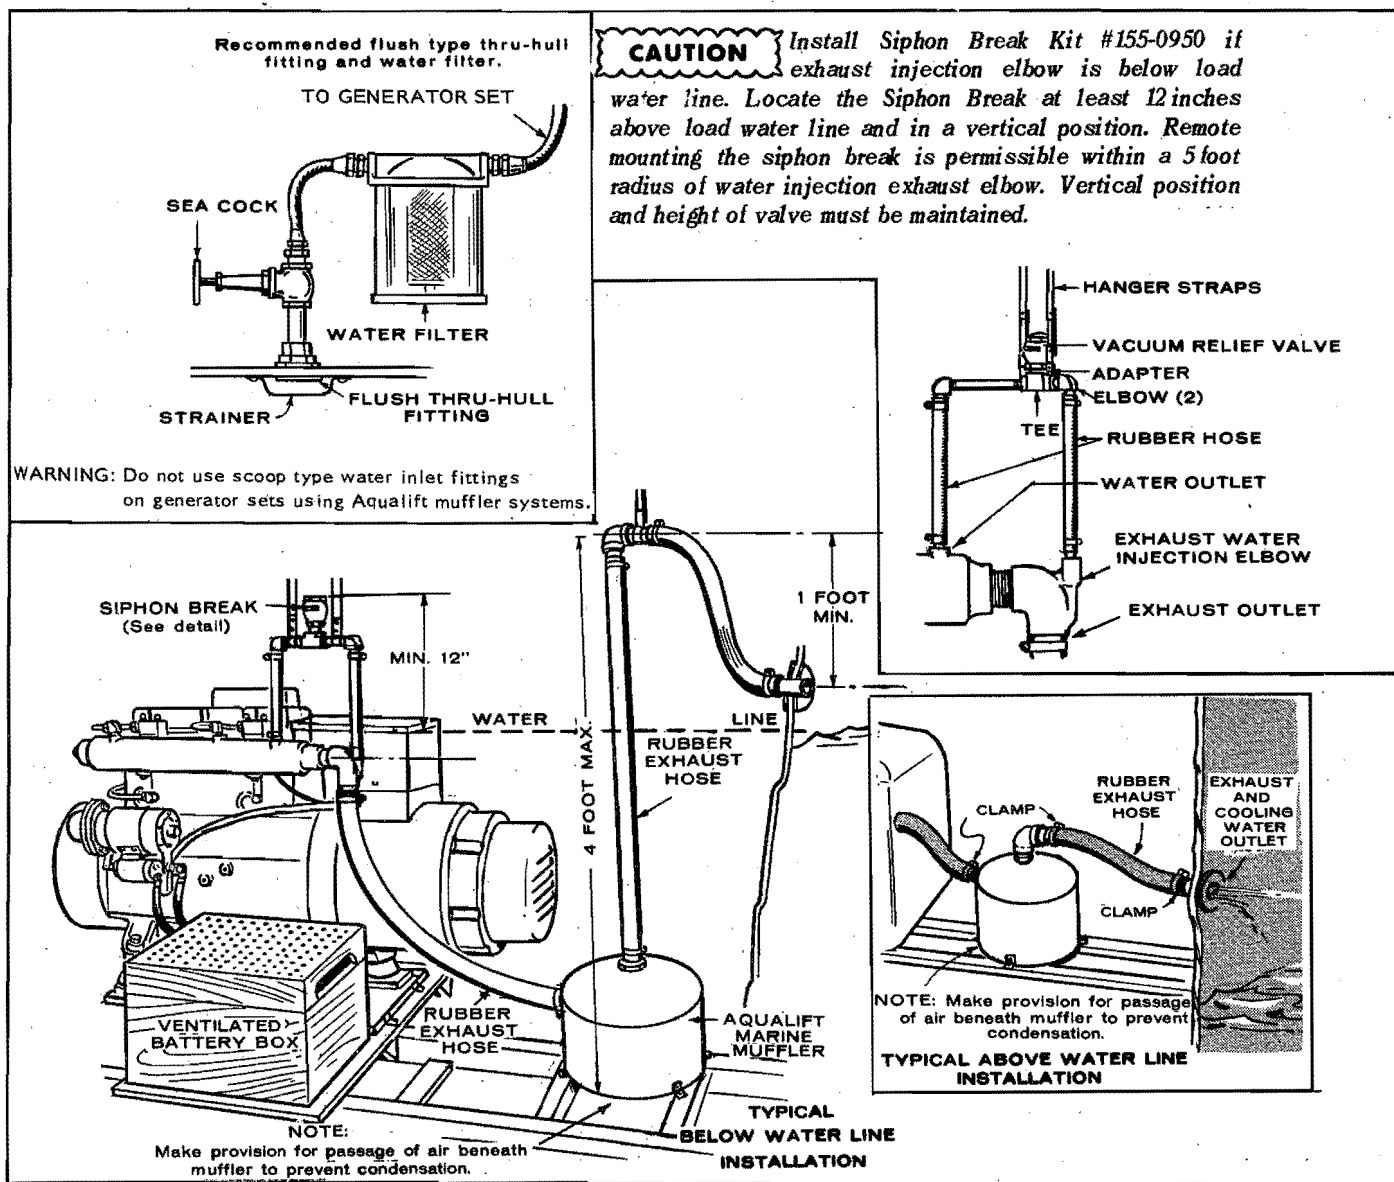

FIGURE 3. TYPICAL INSTALLATION
Provide a tee for water line connection for wet exhaust (Figure 3) - refer to Water Discharge Line Instructions. Raise the dry portion of the exhaust line high enough to prevent water backflowing into the engine under all conditions.
2. Connect the exhaust line (1 1/2") to the marine elbow on the engine and to the exhaust inlet on the muffler. The distance from the base of the muffler to the upper elbow on the exhaust tubing from the muffler outlet must not exceed four-feet (see Figure 3).
3. Connect the exhaust line to the muffler outlet and to the upper elbow. A conventional automobile tail-pipe hanger bracket may be used to hang the upper elbow. Rigid pipe may be used in place of flexible hose for certain applications. There must be a pitch of one-half inch per foot (i.e., a 2-1/2" drop for a 5' run) in the exhaust tubing between the engine exhaust elbow and the muffler inlet. Muffler may be mounted below the level of the engine if necessary. A minimum drop of one-foot is necessary between the engine exhaust outlet on the hull to prevent water from washing into the system (see Fig. 3). An increase of one standard pipe size for every ten running feet of exhaust from the muffler to the exhaust outlet is necessary to prevent excessive backpressure.